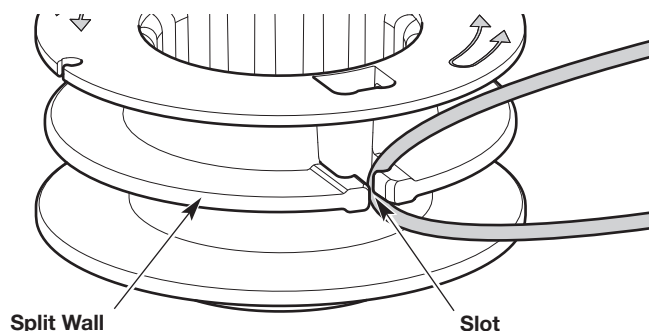

Fig. 21
3. Insert the loop into the slot in the split wall (Fig. 21). Wind the trimming line tightly in the direction shown on the inner reel (Fig. 21). Keep the top half of the line above the split wall and the bottom half of the line below the split wall. Wind the trimming line until about 6 inches (150 mm) remain on each end.